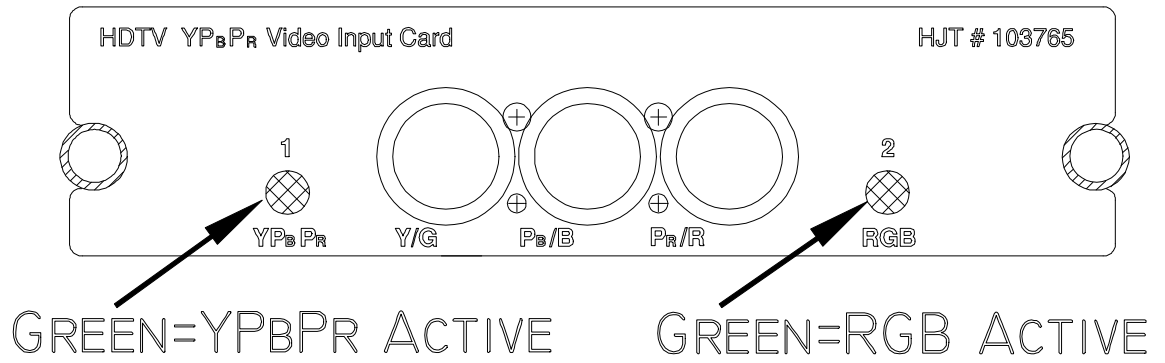

Figure 5-21. HDTV VIC.
- For **HDTV YPbPr VICs**, connect the three input cables to the appropriate input jacks (*Figure 5-21*). Note that the Red, Green, and Blue input jacks are in a different order from the RGBHV VIC with Green at the left, Blue in the middle, and Red on the right. The HDTV YPbPr VIC uses the same circuitry and input jacks to process two different type of inputs; the GBR input and the YPbPr input. Only one of these inputs may be selected at any one time. The selection of one of these inputs is made by editing the second number in the VIC column (see editing VICs below) and using separate channels for their sources.